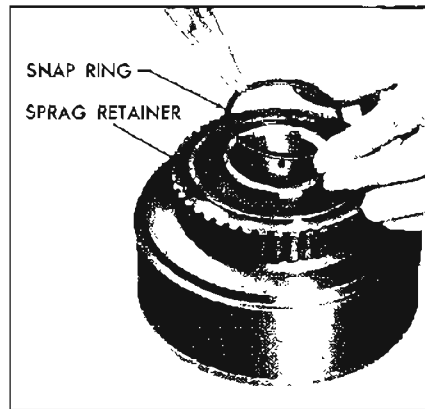

Figure 5-644
15. Install sprag retainer and snap ring. See Figure 5-644.